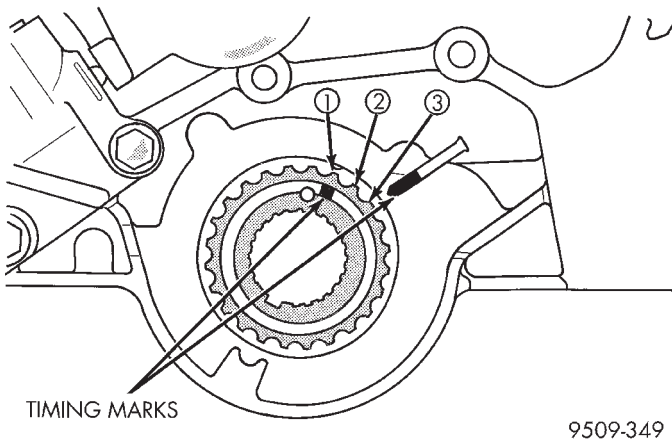

Fig. 55 Crankshaft Sprocket Timing
(1) Set crankshaft sprocket to TDC by aligning the sprocket with the mark on the oil pump housing, then back off to 3 notches before TDC (Fig. 55).